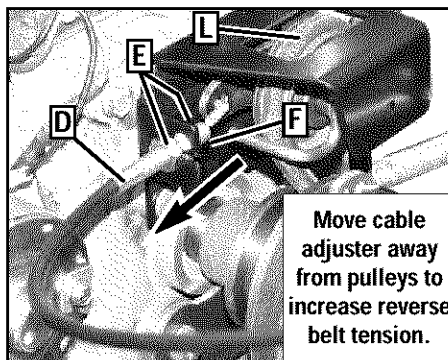

Figure 5-14: Reverse clutch cable adjuster. Left-side view with belt cover removed.
3. Reverse belt tension adjustments are done with the reverse clutch cable adjuster located on the left side of the machine near the engine (D, Figure 5-14). Use two 1/2" open-end wrenches to loosen the two adjuster jam nuts (E) a few turns.
4. Move the cable adjuster (D, Figure 5-14) away from the pulleys to increase belt tension.
6. Pull back on the Reverse Clutch Control knob and make sure that the reverse clutch belt fully contacts the groove in the engine pulley. Release knob and make sure that the belt doesn't engage the reverse engine pulley (L, Figure 5-14). If it does, it may cause the unit to move in reverse when the Wheel Gear Lever is engaged. Adjust the cable for less tension if this condition occurs. See *Checking and Adjusting Reverse Belt Tension* for more information.